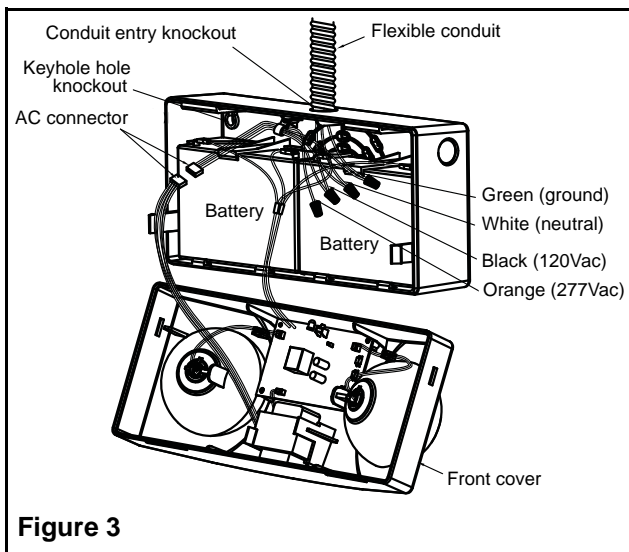

Figure 3
1. Remove the top knockout on the top of the fixture (see figure 3).